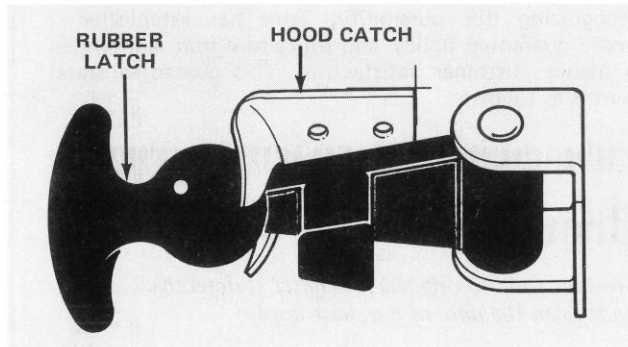

Figure 7
2. Push rubber latch between end of hood catch (Fig. 7). Next, move rubber latch and hood catch against side of hood.
3. Scribe a line at top and side of hood catch (Fig. 7). Next, remove rubber latch from hood catch.